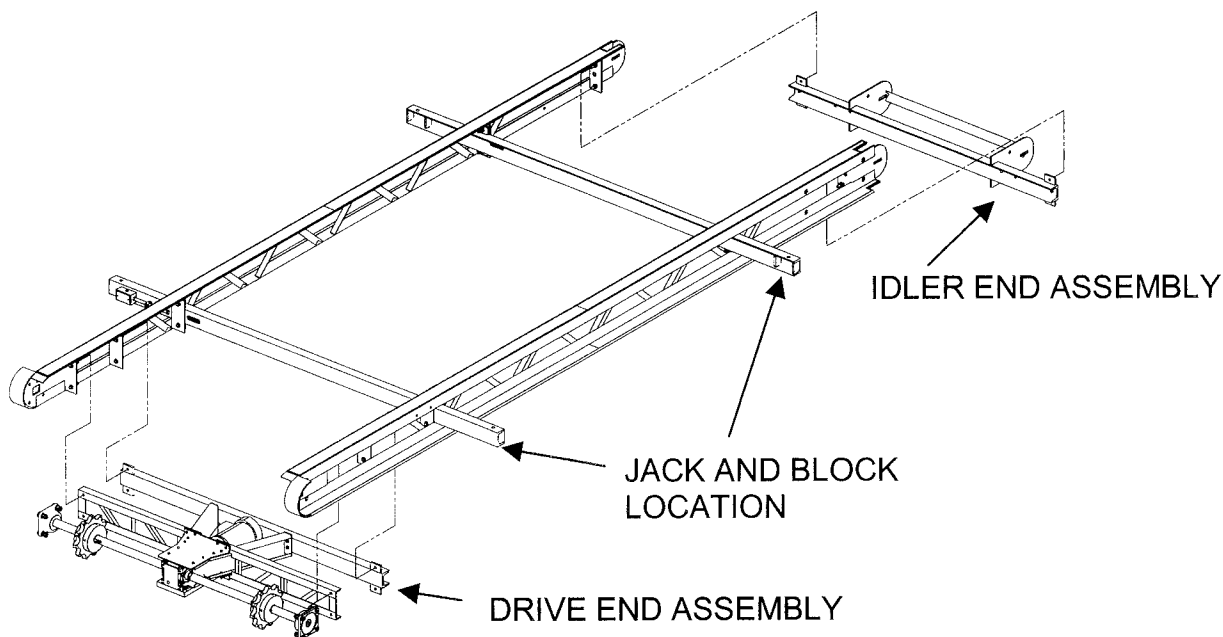

Figure 3-19 Drive and Idler End Installation
As indicated in Figure 3-19, the pulley over the lifting beams must be rotated about the pivot point indicated to obtain the proper alignment with the pulley brackets located upper beam at the front of the steel.
2. Jack the rake up at least six (6) inches.
5. Move the drive assembly into place (Refer to Figure 3-19)